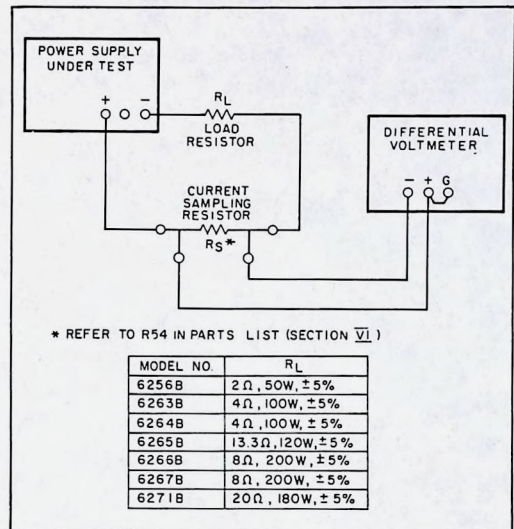

Figure 5-10. Constant Current, Test Setup
- Connect test setup shown in Figure 5-10.
- Utilize test setup shown in Figure 5-10.